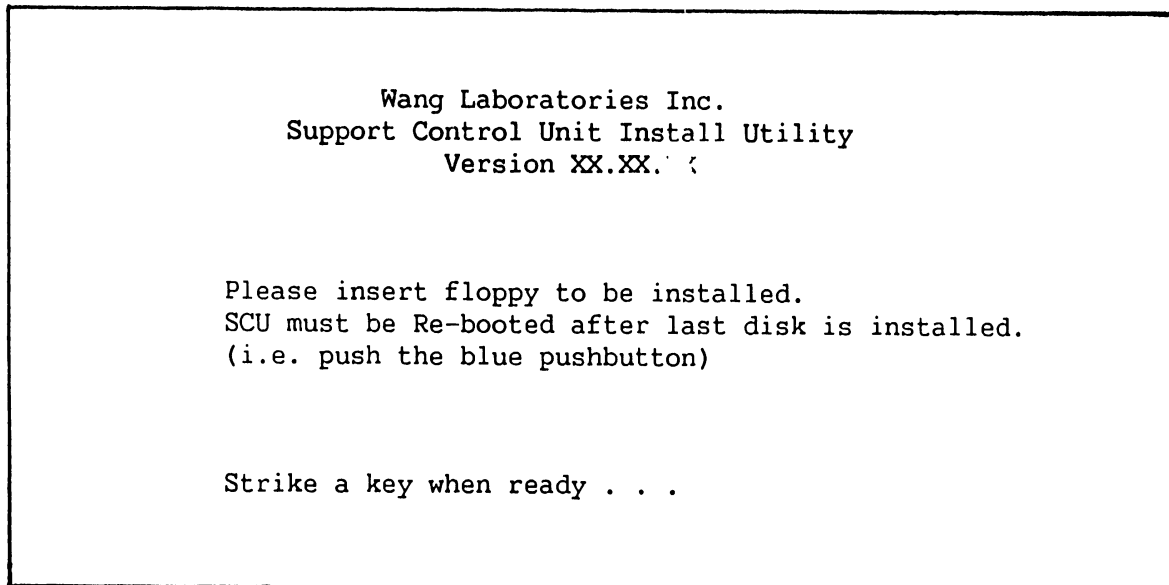

Figure 9-17. SCU Install Utility Screen
9. Select the Install SCU Software option from the Support Control Unit Install Utility menu and press EXEC. The **"Setting up Winchester"** message appears, followed by the SCU Install Utility screen, figure 9-17.
13. Remove the diskette from the drive and press any key. The Install Utility screen, figure 9-17, reappears. Insert another diskette and press any key. Repeat this step until the files from all the diskettes have been copied.